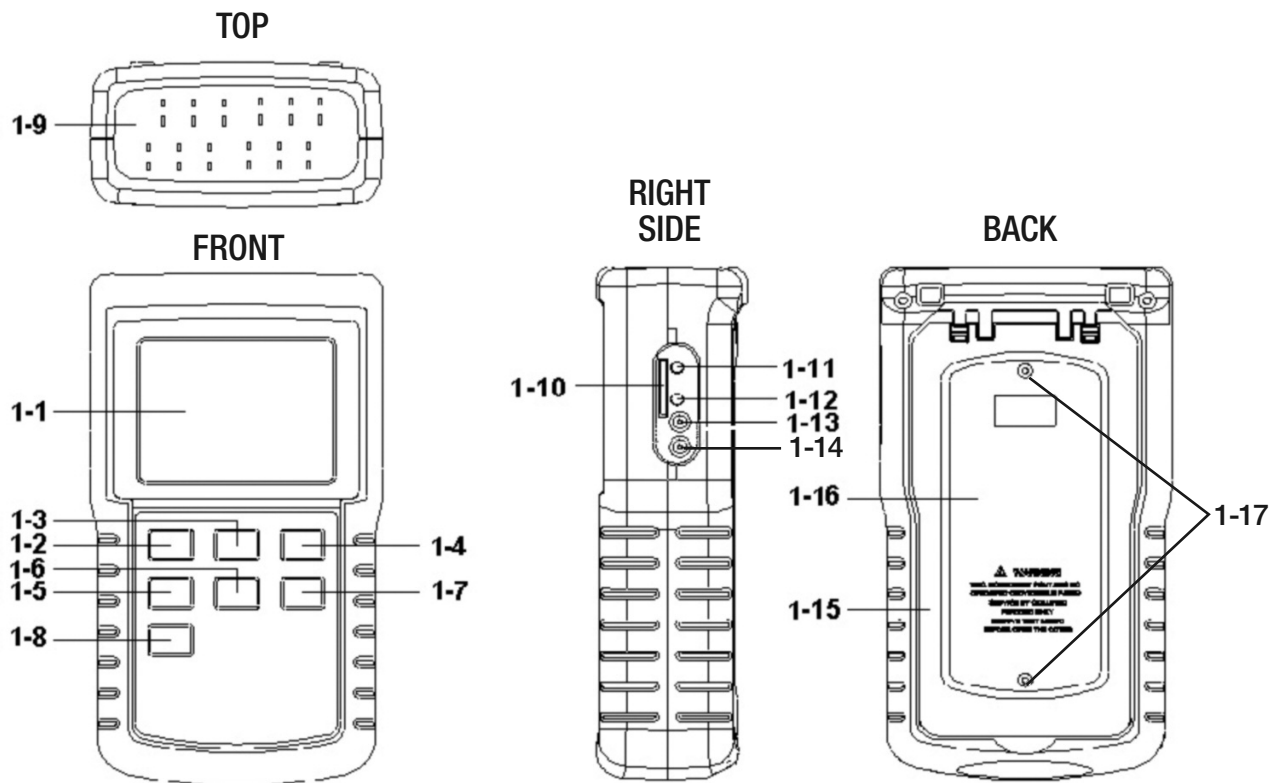

Fig. 1. The DT4208SD's controls and indicators and other physical features
Figure 1 shows all of the controls and indicators on the front, right side, back and top of the DT4208SD. Familiarize yourself with the positions and functions of these controls, indicators and connectors before moving on to the Setup Instructions.
2. To use “K” type thermocouples to measure up to 12 channels of temperature, plug one to 12 of them (two are supplied, others are available for purchase from General) into the jacks (callout 1-9 of Fig. 1) on the top of the temperature recorder. Make sure jack T1 is occupied. Because “K” is the instrument’s default thermocouple type, plugging in up to eight “K” type thermocouples will instantly produce up to eight display readings. Any of the eight channels that are not used will show the overrange reading “- - - -”.